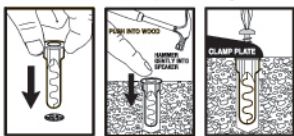

Fig. 3
1.6-Remove the clamp assembly and hand insert four togglers into each hole. Using a hammer, tap gently until the bottom of the toggler flange is flush with the surface of the speaker (Fig. 3).